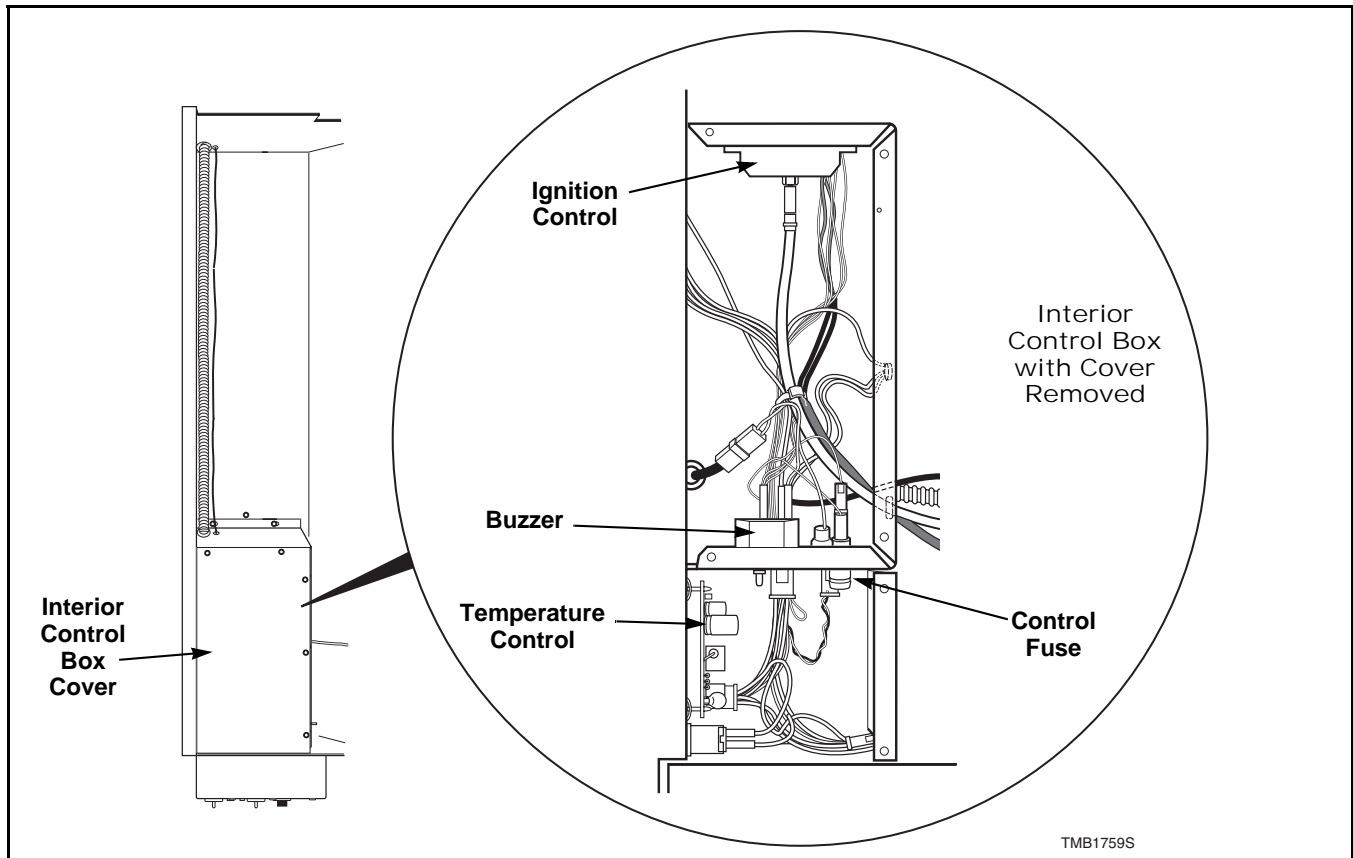

Figure 2
Refer to *Figure 2*.
- c. Remove interior control box cover. Refer to *Figure 2*.
- c. Remove control box cover. Refer to *Figure 2*.